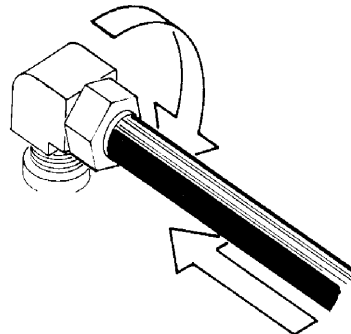

Figure 3
3. Insert the tubing into the fitting all the way to the shoulder inside the fitting (see Figure 3).